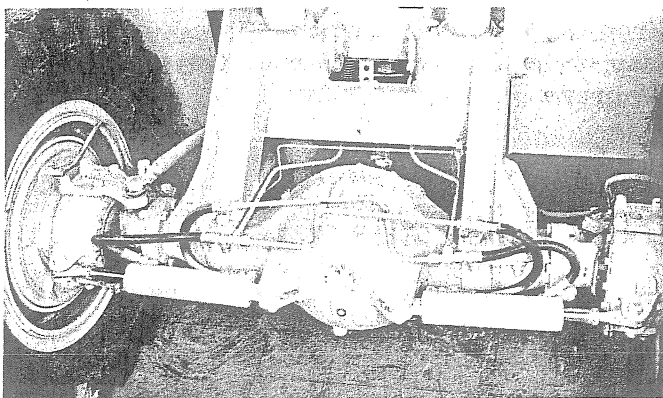

Fig. 1 - Front Drive Steer Axle
- (e) Reconnect brake lines and bleed brakes. Fig. 1 shows a view of the front drive steer axle installed.